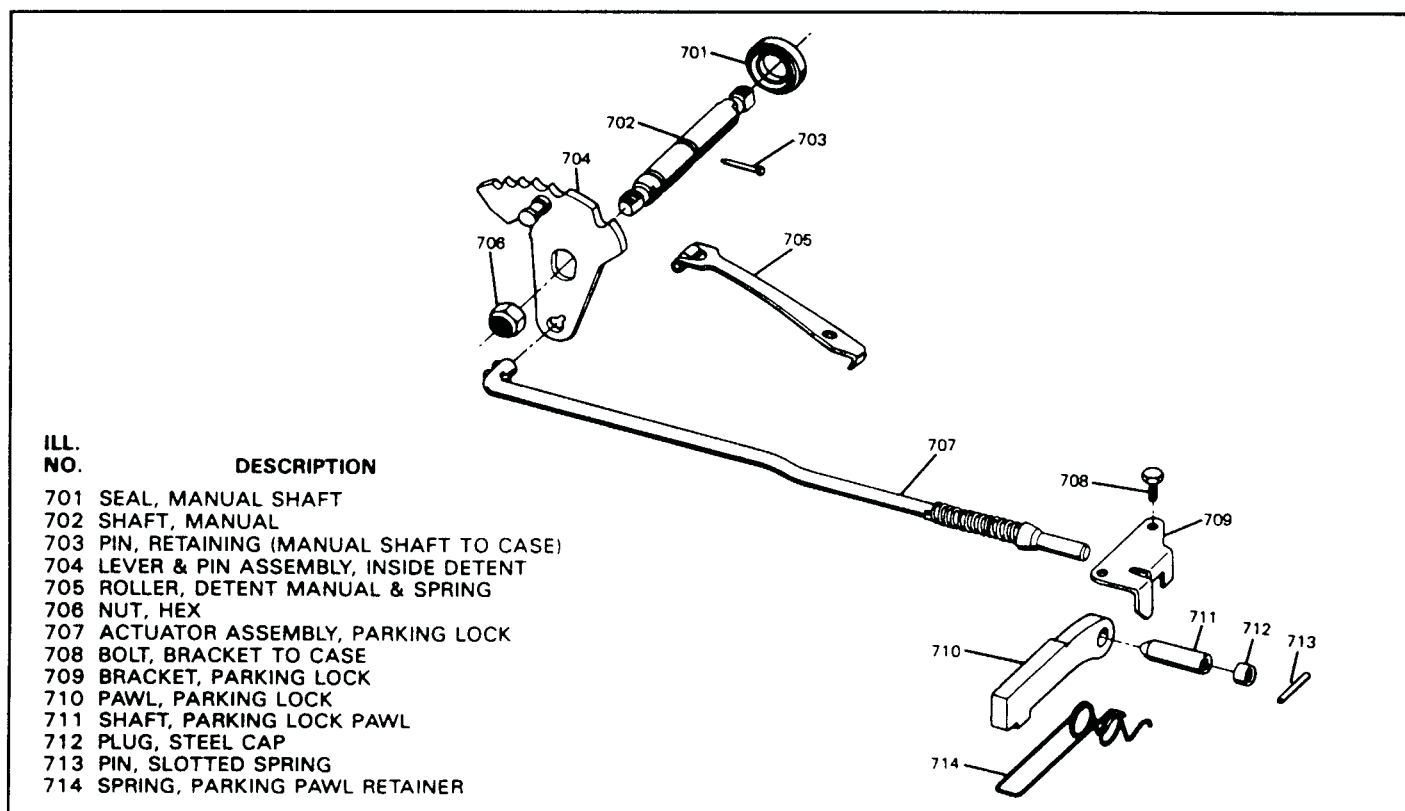

Figure 62
9. Install the park rod into the inside detent lever, install the inside detent lever on manual shaft and insure it is engaged on flats (See Figure 62).
10. Install manual shaft nut onto the manual shaft and torque to 20-25 ft.lbs. (See Figure 62).